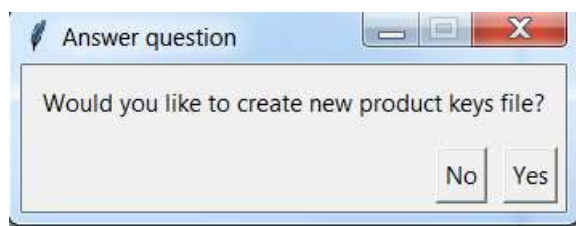

Figure 51: Question window to create new product keys file
4. First window after launching `secure_image_config` script is shown in Figure 51. By selecting “Yes” new product keys file is generated automatically.